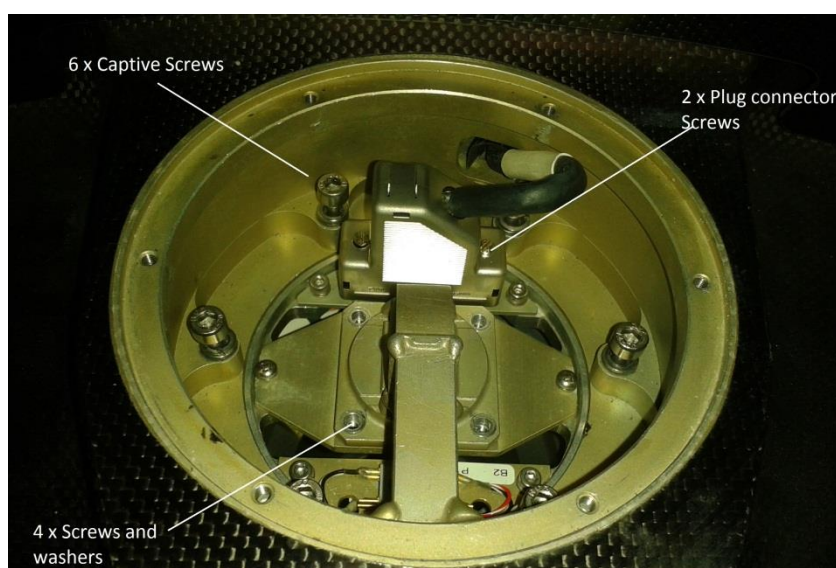

Figure 2 Antenna EI. Assy and Az. Pedestal Assy linked together
- unscrew the 6 captive screws of the Antenna EI. by means 4 mm male hex wrench (b) See Figure 2.